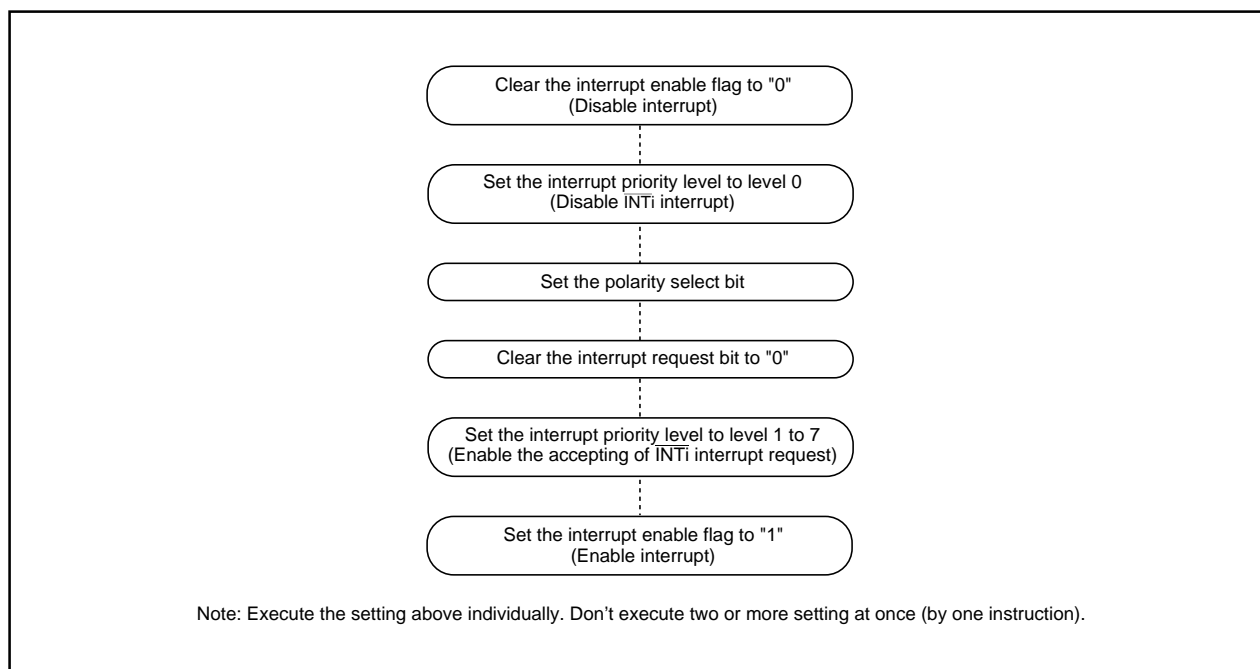

Figure 1.11.15. Switching condition of $\overline{\text{INT}}$ interrupt request
(3) The $\overline{\text{NMI}}$ interrupt
(4) External interrupt
- When the polarity of the $\overline{\text{INT0}}$ to $\overline{\text{INT5}}$ pins is changed, the interrupt request bit is sometimes set to "1". After changing the polarity, set the interrupt request bit to "0". Figure 1.11.15 shows the procedure for changing the $\overline{\text{INT}}$ interrupt generate factor.